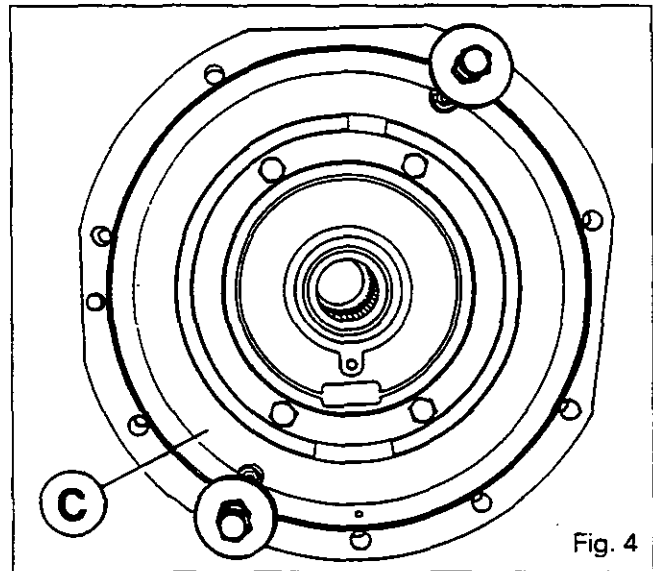

Fig. 4
- . the brake disc (19)
- . the planetary shaft (23)
- . the locating dowel (27)
Note : To prevent the brake piston (C) from coming out of the housing, it is recommended that two wide washers and two bolts be fitted diametrically opposite each other to hold it in place. (Fig.4)
17. Remove the brake plate (18).